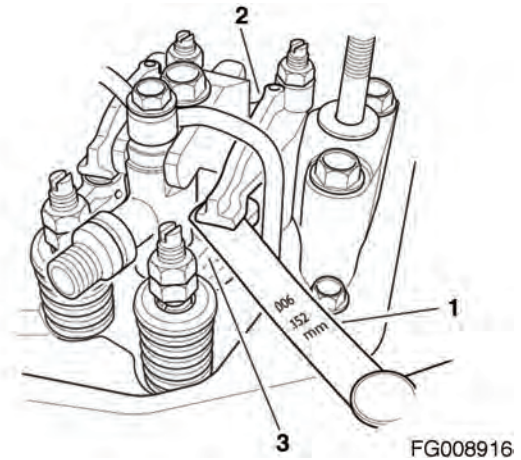

Figure 163
8. To adjust the actual valve clearance between the rocker arm and the valve bridge, insert a feeler gauge (1, Figure 163) of the correct thickness (See "Adjustment Specifications" on page -95.) between the rocker arm (2, Figure 163) and valve bridge (3, Figure 163). Record the results and use this value as an indication of wear.